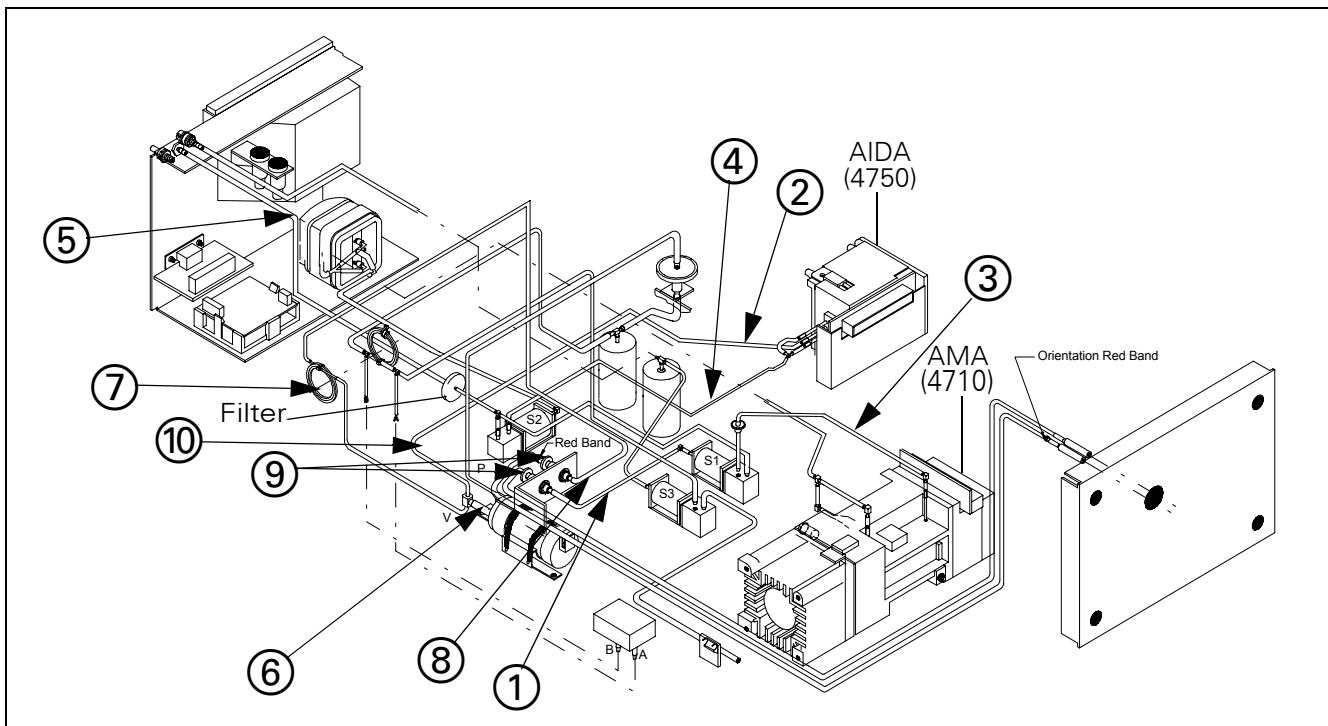
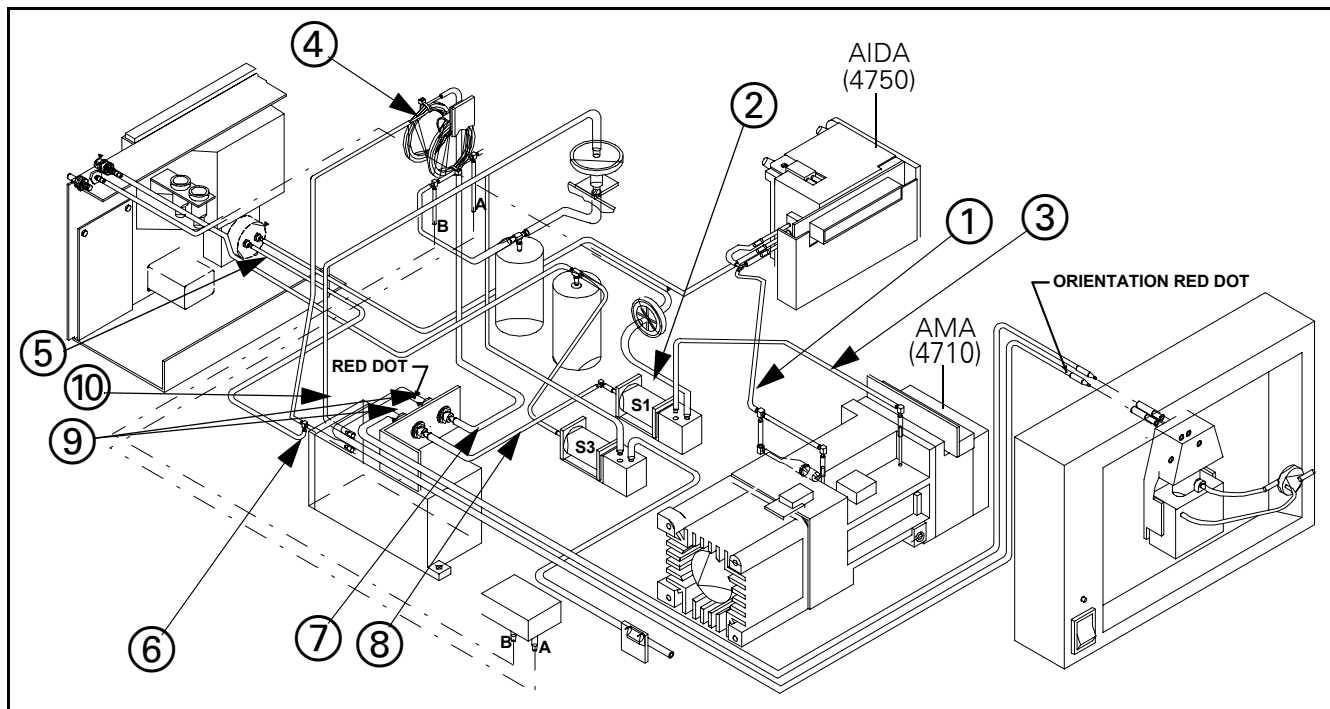

Figure 3-1 Pump and Pneumatic Subassemblies in MGM+
Figure 3-2 Pump and Pneumatic Subassemblies in MGM (Slo-O2)
All pneumatic tubing subassemblies in the MGM+ Module are replaced as complete subassemblies. Refer to Figure 3-1.
2. Disconnect and discard tubing between input filter holder and S1 (① in Figure 3-1).
3. Disconnect and discard tubing subassembly from water input (center port) on bulkhead at AIDA-head (4750) (② in Figure 3-1), vacuum input of pump (⑦ in Figure 3-1), and input filter holder (⑧ in Figure 3-1).
4. Disconnect and discard tubing and filter between AMA-head (4710) and S1 (③ in Figure 3-1).
5. Disconnect and discard remaining tubing from S1 to S2 (④ in Figure 3-1) and room air inlet filter (including filter). (Do NOT remove inlet tubing (⑤ in Figure 3-1) from back of module to filter!)
1. Install tubing assembly 450334-001 between S1 and S2 (④ in Figure 3-1), and insert filter into inlet hose from back of unit (⑤ in Figure 3-1).
2. Install tubing assembly 450321-001 connecting AMA-head (4710) and S1(③ in Figure 3-1).
3. Connect end of tubing assembly 450349-000 (② in Figure 3-1) from **T**-piece to center port on AIDA-head (4750) and then secure restrictor (⑦ in Figure 3-1) in holder.
4. Connect tubing from **T**-piece of tubing subassembly 450349-000 into vacuum input on pump (⑥ in Figure 3-1).
5. Connect remaining end of tubing subassembly 450349-000 into water line on input filter holder (⑧ in Figure 3-1).
7. Connect tubing subassembly 450323-001 between S1 and input line filter holder (① in Figure 3-1).
Refer to Figure 3-2.
2. Disconnect and discard tubing from input filter to S1(⑧ in Figure 3-2).
3. Disconnect and discard tubing from AMA-head (4710) to AIDA-head (4750) (① in Figure 3-2).
4. Disconnect and discard tubing and filter from S1 to room air input line (② in Figure 3-2).
5. Disconnect and discard remaining tubing from S1 to AMA-head (4710) (③ in Figure 3-2).
6. Disconnect entire subassembly, including restrictor (④ in Figure 3-2), from O2 cell (⑤ in Figure 3-2), pump input (⑥ in Figure 3-2), and connection to water input filter holder (on bracket above pump) (⑦ in Figure 3-2).
1. Install tubing subassembly 450328-001 between AMA-head (4710) and AIDA-head (4750) (① in Figure 3-2).
2. Install tubing subassembly 450321-001 between AMA-head (4710) and S1 (③ in Figure 3-2).
3. Connect end of tubing subassembly 450353-000 to water input filter holder (on bracket above pump) (⑦ in Figure 3-2), and then route restrictor (④ in Figure 3-2) through holder.
4. Connect tubing from T-piece on tubing subassembly 450353-000 to pump input (⑥ in Figure 3-2).
5. Connect remaining end of tubing subassembly 450353-000 to O2 cell input (⑤ in Figure 3-2).
6. Connect tubing and filter subassembly 450284-002 (② in Figure 3-2) between S1 and room air input line.
7. Connect tubing subassembly 450323-001 between S1 and sample input line filter holder (⑧ in Figure 3-2).
1. After completing steps of Section 2.1.1 (if MGM+) or Section 3.1.1 (if MGM), disconnect nafion lines (gas and water) (⑨ in Figure 3-1 on page 22 or Figure 3-2 on page 23) from bracket above pump.
3. Disconnect tubing (⑩ in Figure 3-1 on page 22 or Figure 3-2 on page 23) from pump filter port.
2. Reinstall tubing (ⓐ in Figure 3-1 on page 22 or Figure 3-2 on page 23) on pump filter port.
4. Reinstall filter bracket and reconnect Nafion lines. Be sure that line with red band is connected as illustrated in Figure 3-1 on page 22 or Figure 3-2 on page 23.